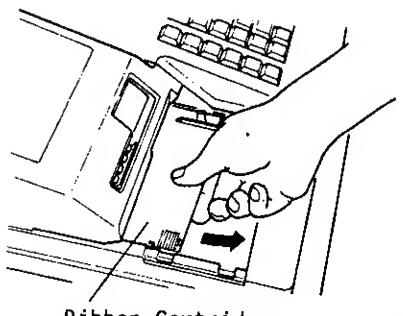

Fig. 2
2. Remove the old ribbon cartridge by pulling it toward you (Fig. 2).